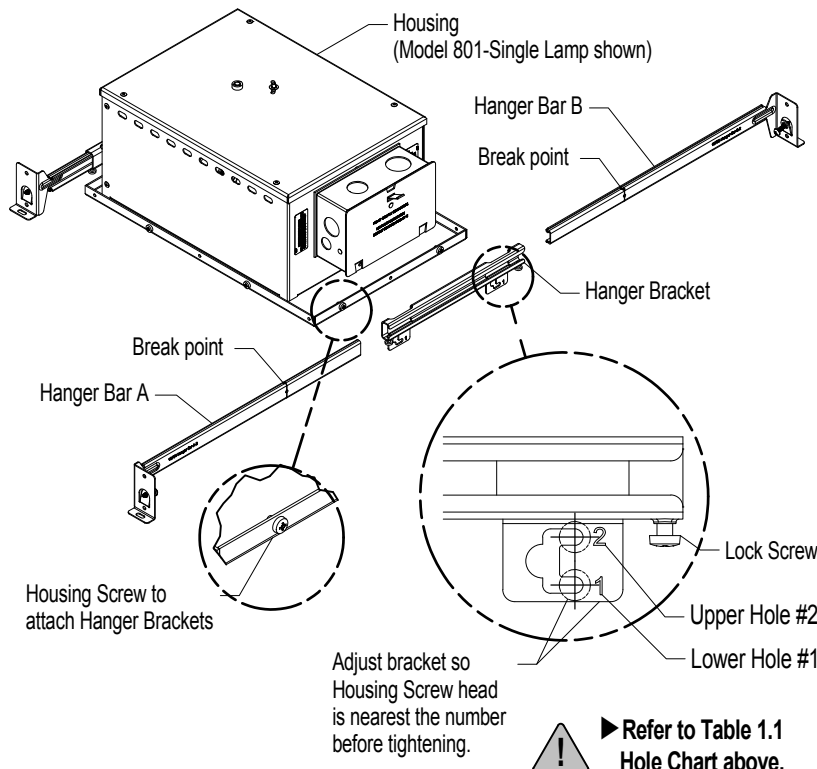

FIG 1.1 Installing Hanger Bar & Hanger Bracket Set
STEP 1 Determine which Trim Kit model below is specified for use on housing-see below. Check Hanger Bracket position on Housing according to Table 1.1. Adjust Hanger Bracket position as needed FIG 1.1 & 1.2.